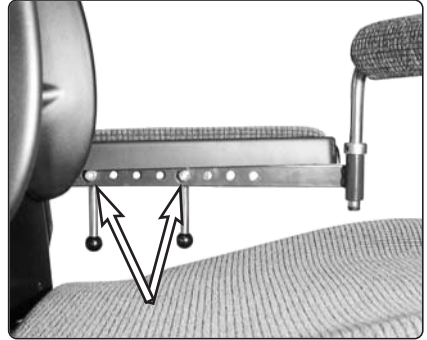

Fig. 5. Arm rest and chest support.
1. Loosen the two nuts on the inner side of the arm rest, see Fig. 5.
1. Unscrew and remove the two nuts on the inner side of the arm rest, see Fig. 5.